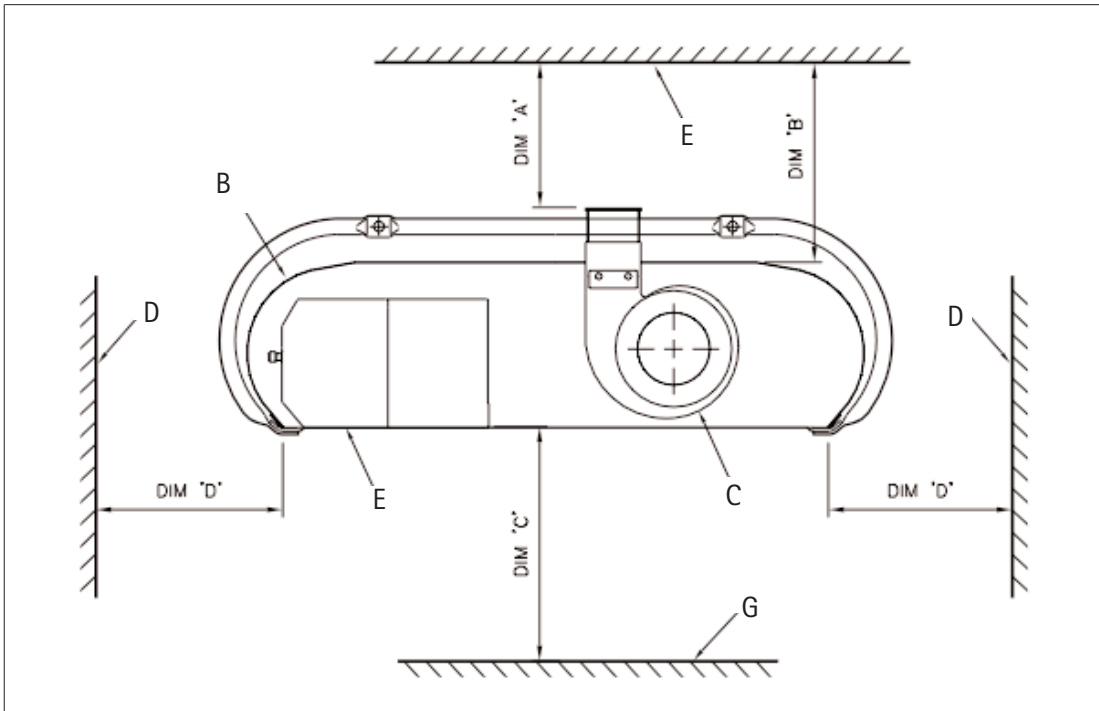

Figure 1
- Make sure the heater is far enough away from combustible materials (see Fig.1).